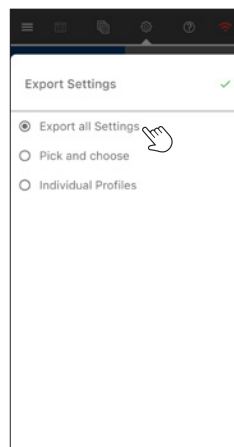

Figure 1
**Step 2:** In the popup window, select one of the three options (Figure 1, 2 and 3) then tap the **✓ checkmark** button to confirm the selection